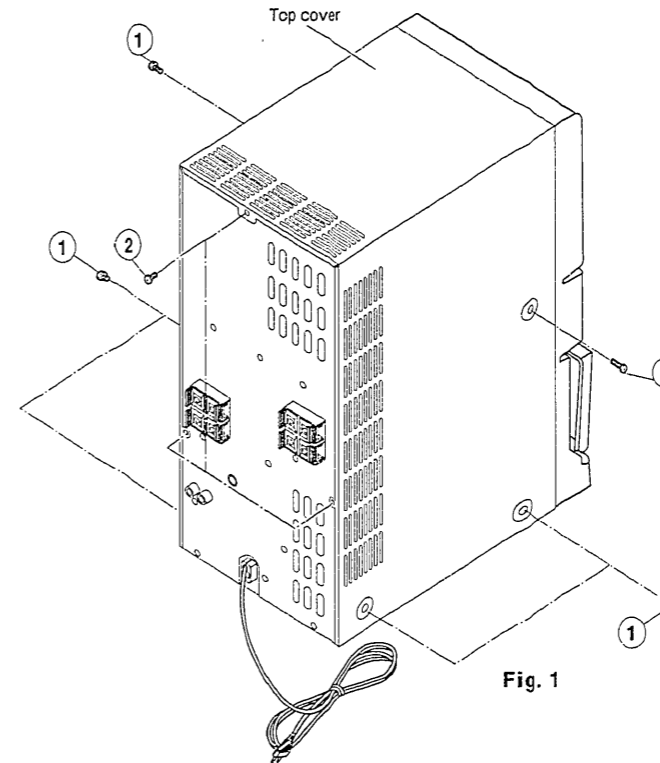

Fig. 1
1. **Removal of Top Cover (Fig. 1)**
- Use the T201 core to form the S-curve shown in Figure 1. Adjust the symmetry of A and B about point C for linearity.